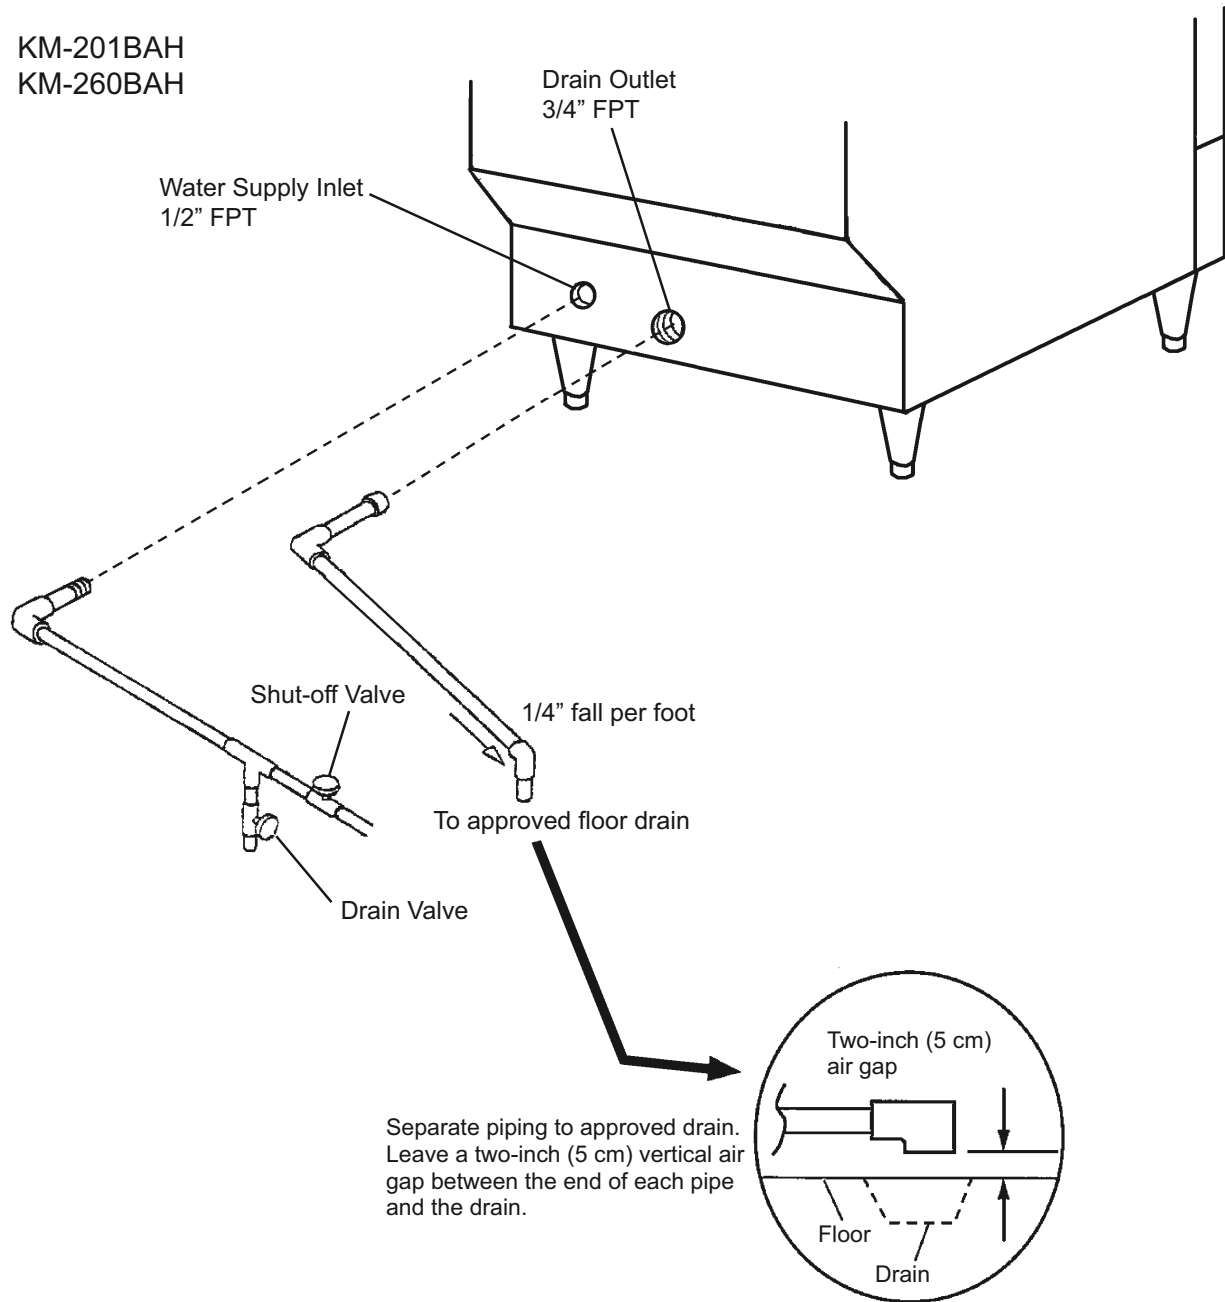

Fig. 4
F. Water Supply and Drain Connections - See Figs. 4 and 5